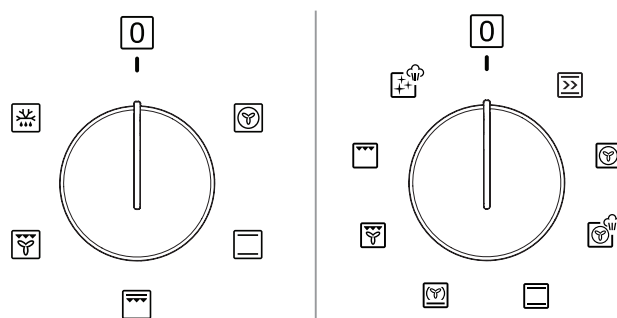

Figure 13: Oven Mode Knob
3. Turn the oven mode knob to the conv bake position (Figure 13).